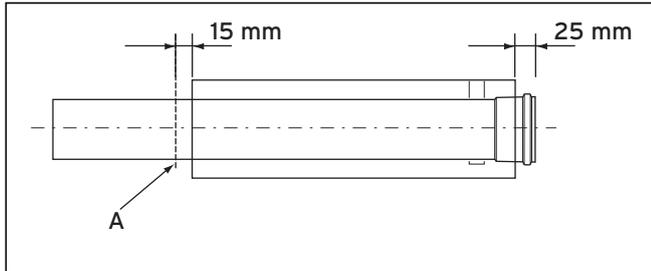

Fig. 2.10 Flue duct
- Cut the flue duct as detailed in fig. 2.10.